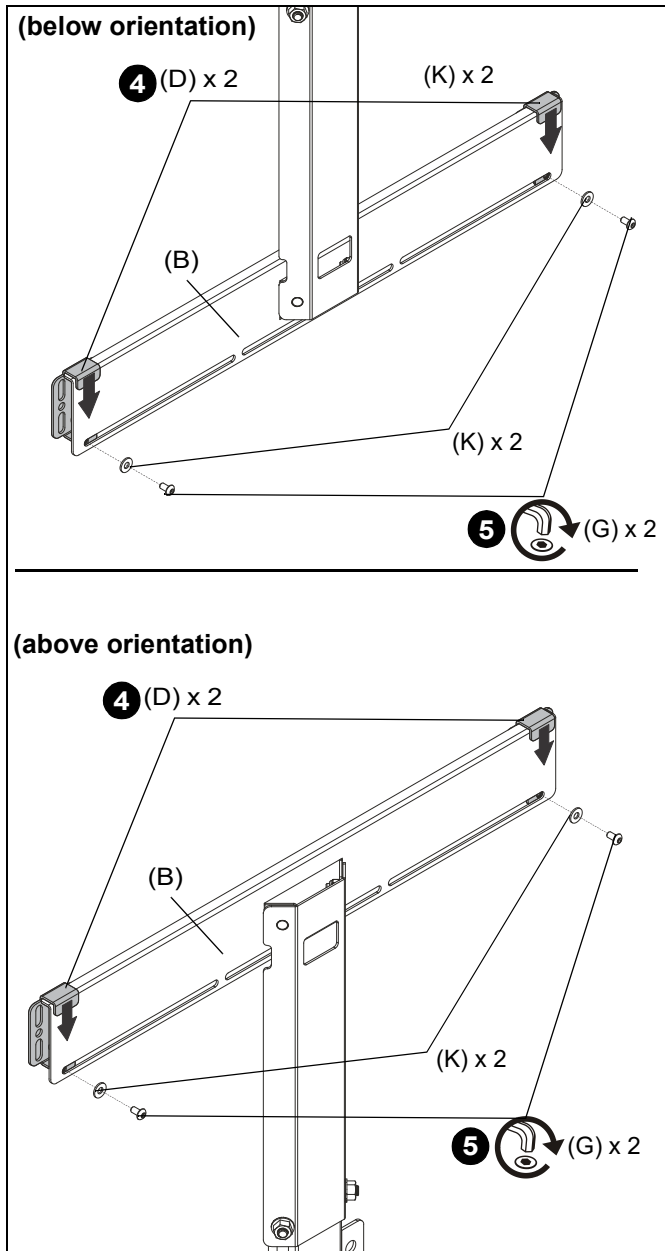

Figure 6
(See Figure 6)
**NOTE:** Speaker interfaces (D) may be installed anywhere horizontally along speaker bracket (B) depending on soundbar.
- Use two #10-24 x 3/8" button head cap screws (G) and two #10 washers (K) to secure two speaker interfaces (D) to speaker bracket (B). (See Figure 6)